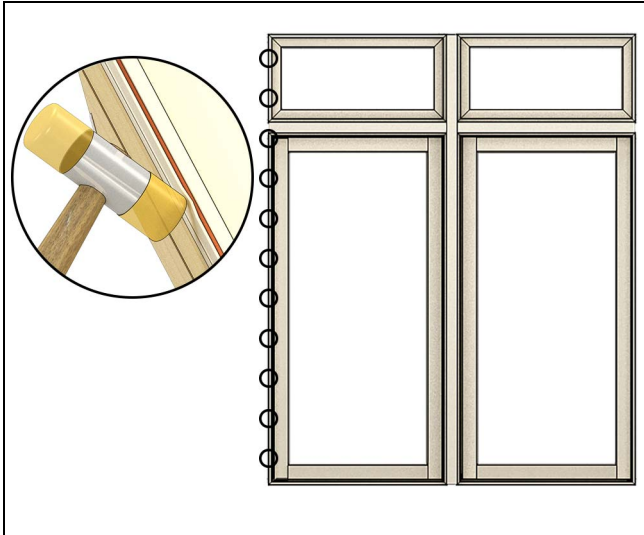

Figure 41
1. Use a plastic headed hammer to make minor dents in the cladding accessory kerf where the A148 frame trim will be applied. The frame trim will always run perpendicular to any non-direct mull. See Figure 41.